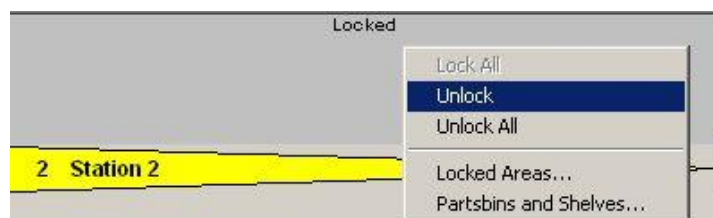

Figure 254: Context Menu for Material Supply Area
- Using the menu item *Locked Areas...*, locks single areas of a material supply area. Please refer to the Figure 254.